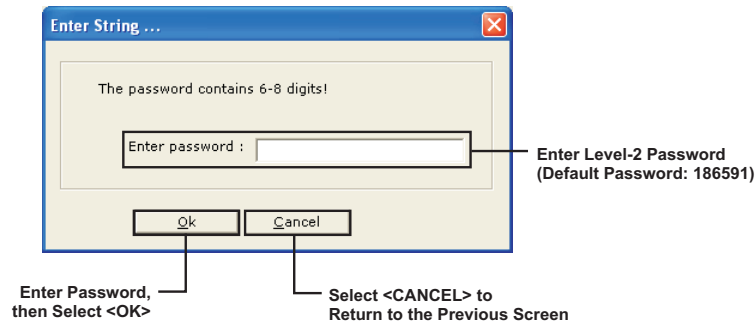

Figure 4-25. Enter Password
2. Select either the "All" or "Range" radio button. If "Range" is selected, enter the range of dates to receive. Select **<OK>**. In response, the prompt for a password (Figure 4-25) is displayed.